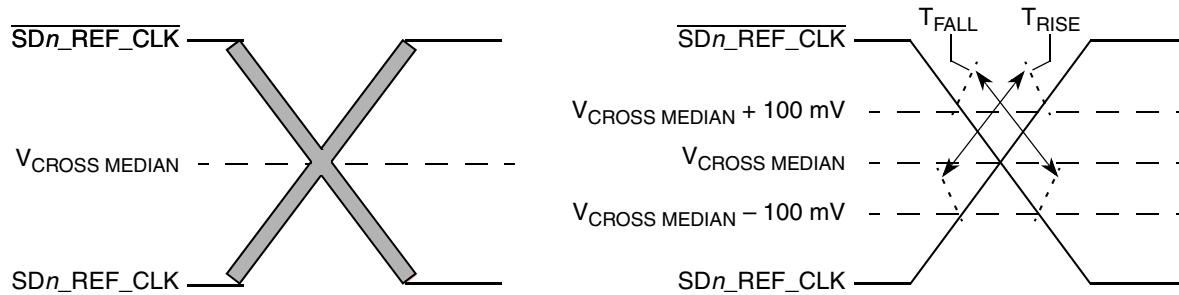

Figure 67. Single-Ended Measurement Points for Rise and Fall Time Matching
4. Matching applies to rising edge rate for SDn_REF_CLK and falling edge rate for $\bar{SDn_REF_CLK}$. It is measured using a 200 mV window centered on the median cross point where SDn_REF_CLK rising meets $\bar{SDn_REF_CLK}$ falling. The median cross point is used to calculate the voltage thresholds the oscilloscope is to use for the edge rate calculations. The Rise Edge Rate of SDn_REF_CLK should be compared to the Fall Edge Rate of $\bar{SDn_REF_CLK}$, the maximum allowed difference should not exceed 20% of the slowest edge rate. See Figure 67.